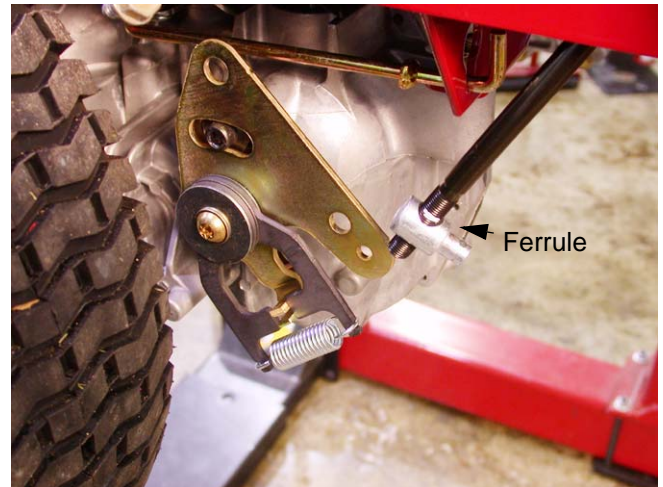

Figure 16.3
- 16.3. Disconnect the ferrule from the return to neutral assembly. See Figure 16.3.